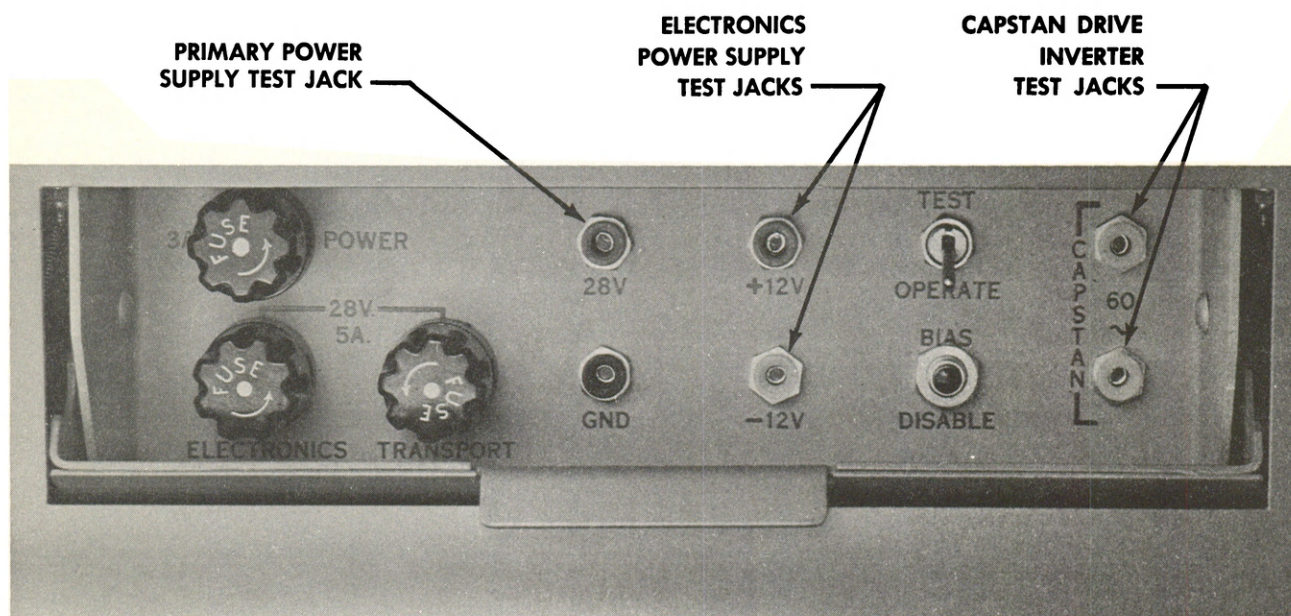

Figure 4-1. Test Panel
4.6 The test panel (see figure 4-1) contains fuses for power input, transport power and electronics power. Test jacks are provided for checking the voltage output of each power supply. The Primary Power Supply is checked between the 28V jack and ground. The Electronics Power Supply is checked between the +12V jack and ground and between the -12V jack and ground. The Capstan Drive Inverter output is measured between the CAPSTAN jacks.